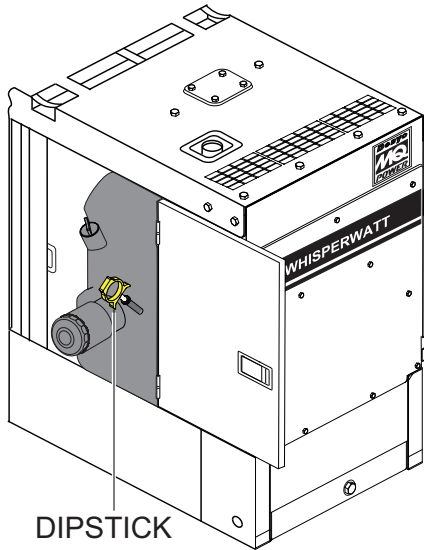

**Figure 27. UVWO Terminal Lugs
2. Connect the load wires to the UVWO terminals as shown in Figure 27.